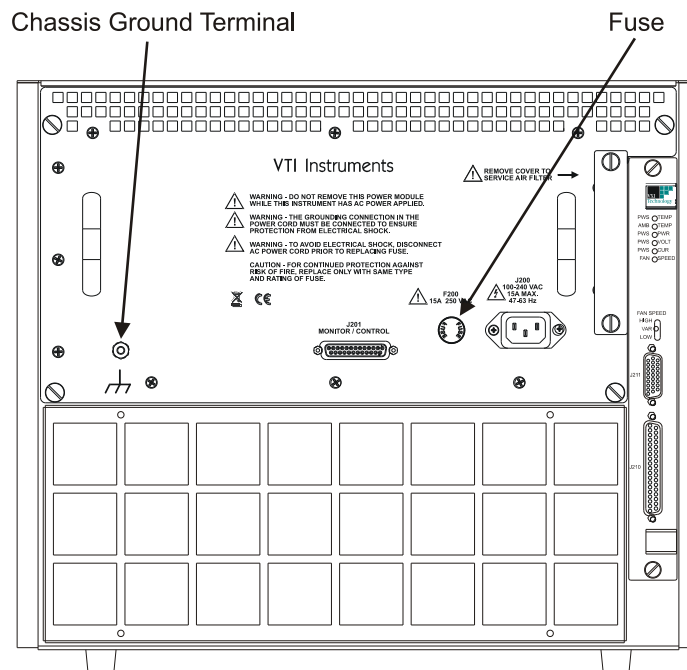

FIGURE 2-1: FUSE AND GROUND LOCATION
Refer to Figure 2-1 for the location of the fuse on the back panel.
- 1) Connect a 16 AWG (or larger) wire to the ground terminal located on the rear panel (this connection is marked by a symbol). Use a grounding lug with a star washer or a toothed lug, to make this connection. See Figure 2-1.